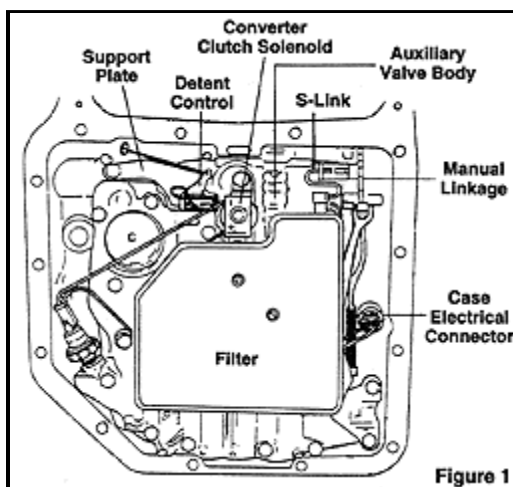

Figure 1
STEP 1 Some Turbo 350 transmissions do not have drain plugs. You may want to install a TCI® 805800 Drain Plug Kit before you reinstall your transmission pan. Drain the oil by removing the back oil pan bolts and work towards the front slowly. (Note: Some vehicles will require removal of the crossmember to remove the pan. Make sure you support the back of the transmission so you don't damage the distributor.) Do not remove the front two (2) pan bolts yet. If the pan sticks to the gasket, insert a screwdriver between the pan and case and pry the pan down slightly to break it loose. Allow the fluid to drain. Now remove the two (2) front bolts slowly. This will lower the pan to allow the rest of the fluid to drain. Lower the pan and set aside. Put the pan bolts in your tray.
STEP 2 Use a screwdriver to remove two (2) screws and remove the oil filter and filter gasket. Put them in the oil pan. (See Figure 1)
STEP 3 Observe the location of the following: (See Figure 1) Manual linkage, detent spring and roller, s-link, detent control valve link and lever, support plate, converter clutch solenoid, and auxiliary valve body.